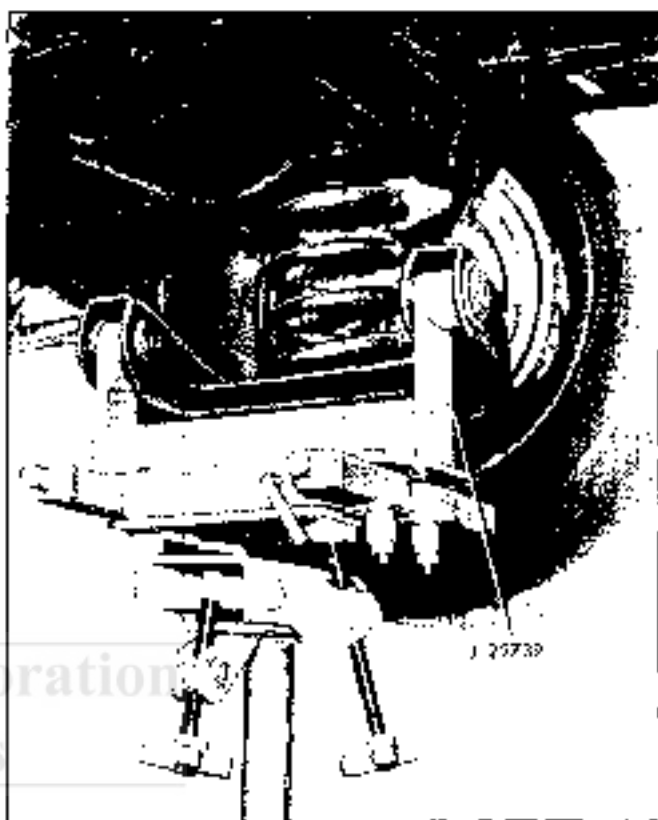

Fig. 3-11 Firebird Coil Spring Removal Tool
5. Using a hydraulic transmission jack, bolt spring removal tool J 22739 to the jack and position under the two inner control arm bushings (Fig. 3-11).